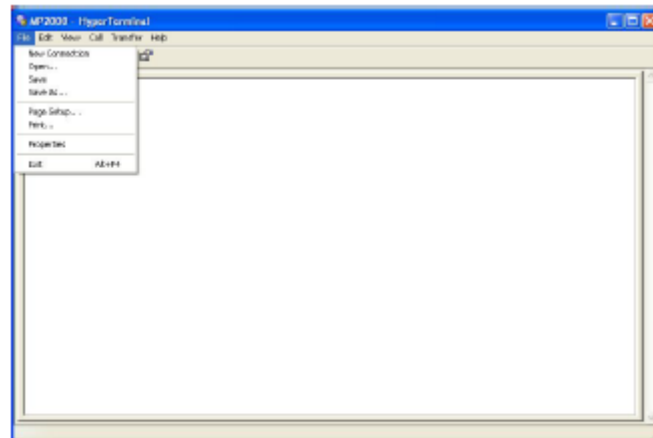

Figure 34
Step 7: A blank window with the entered file name appears (Figure 34).
Press Enter to go to MP2000E screen (Figure 34).